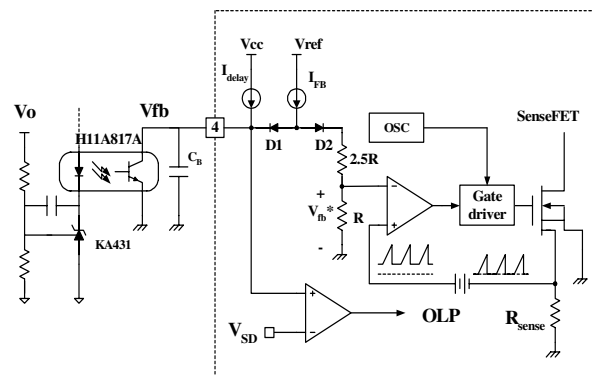

Figure 5. Pulse width modulation (PWM) circuit
**2. Feedback Control :** FSDM07652RB employs current mode control, as shown in Figure 5. An opto-coupler (such as the H11A817A) and shunt regulator (such as the KA431) are typically used to implement the feedback network. Comparing the feedback voltage with the voltage across the Rsense resistor plus an offset voltage makes it possible to control the switching duty cycle. When the reference pin voltage of the KA431 exceeds the internal reference voltage of 2.5V, the H11A817A LED current increases, thus pulling down the feedback voltage and reducing the duty cycle. This event typically happens when the input voltage is increased or the output load is decreased.
**2.1 Pulse-by-pulse current limit:** Because current mode control is employed, the peak current through the Sense FET is limited by the inverting input of PWM comparator ( $V_{fb}^*$ ) as shown in Figure 5. Assuming that the 0.9mA current source flows only through the internal resistor ( $2.5R + R = 2.8 k\Omega$ ), the cathode voltage of diode D2 is about 2.5V. Since D1 is blocked when the feedback voltage ( $V_{fb}$ ) exceeds 2.5V, the maximum voltage of the cathode of D2 is clamped at this voltage, thus clamping  $V_{fb}^*$ . Therefore, the peak value of the current through the Sense FET is limited.